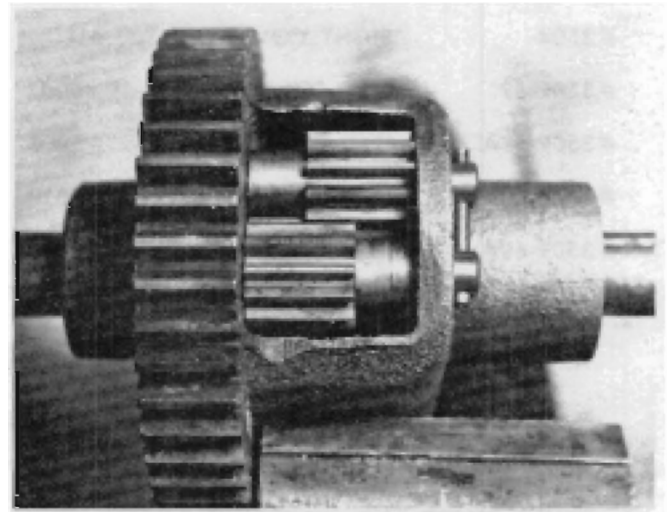

FIGURE 6
2. Place the spider gears in position, as shown in Figure 6, slide the differential pins into position through the spiders and secure with roll pins.